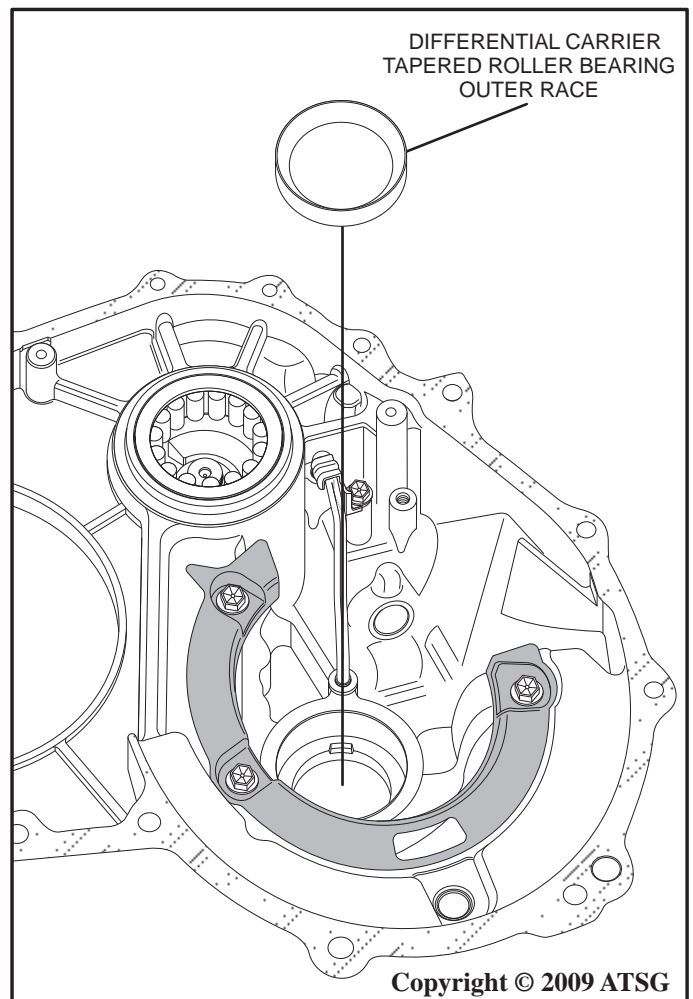

Figure 65
14. Inspect the differential carrier tapered roller bearing outer race for wear and replace as necessary, then install into the torque converter housing using SST 09951-00720, 09951-07150 or an appropriate bushing driver as shown in Figure 65.